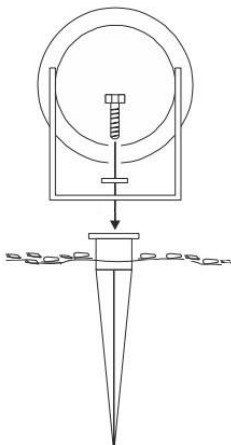

Fig.1
- Choose a position for the luminaire ensuring that the ground is suitable to firmly hold the spike and luminaire in position. Check that the ground is not liable to flooding and the spike does not infringe with any underground pipes or cables (see Fig. 1)